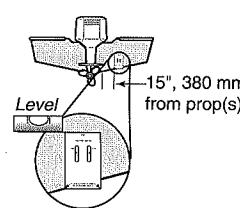

Figure 10
- The hydrodynamic shape of your transducer allows it to point straight down without deadrise adjustment (Figure 10).
1. Hold the template on the transom of the boat in the location where the transducer will be installed (Figure 10). Align the template vertically, matching the lower edge of the transom with the bottom corner of the template. If your propeller moves clockwise as the boat moves forward, mount the transducer on the starboard side, and use the bottom left corner of the template. If your propeller moves counter-clockwise as the boat moves forward, mount the transducer on the port side, and use the bottom right corner of the template.
- Hold the template on the transom of the boat in the location where the transducer will be installed (Figure 10). Align the template vertically, matching the lower edge of the transom with the bottom corner of the template. If your propeller moves clockwise as the boat moves forward, mount the transducer on the starboard side, and use the bottom left corner of the template. If your propeller moves counter-clockwise as the boat moves forward, mount the transducer on the port side, and use the bottom right corner of the template.